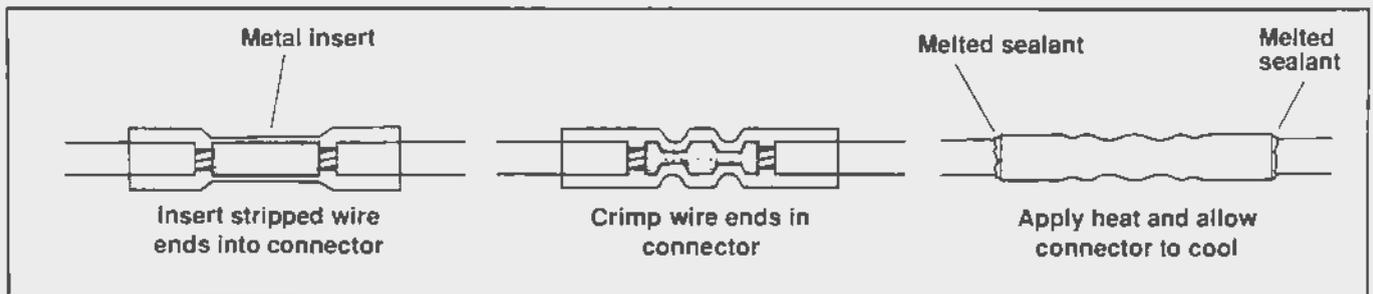

Figure A-15. Installing Sealed Butt Connectors
6. See Figure A-15. Feed the wire into the butt splice connector until the stripped end contacts the wire stop inside the metal insert.
9. Using the UltraTorch UT-100 (HD-39969), Robinar Heat Gun (HD-25070) with heatshrink attachment (HD-41183) or other suitable radiant heating device, heat the crimped splice to encapsulate the butt splice connection. Apply heat from the center of the crimp out to each end until the meltable sealant exudes out both ends of the connector. See Figure A-15.